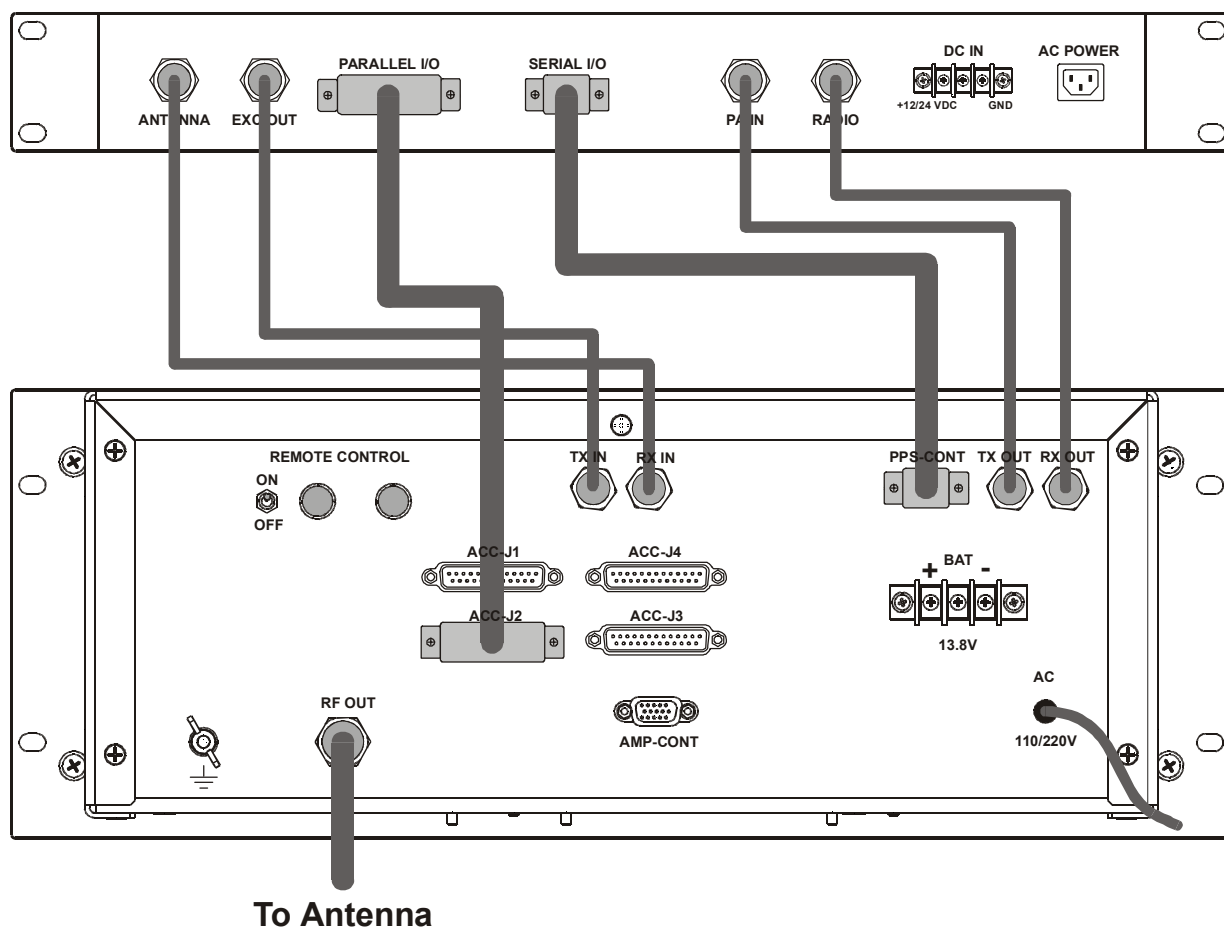

Figure 8. Connections to PPS
To use the PPS, order the RM125/RM125R with option G65. The connections between an RM125/RM125R with option G65 and the PPS are shown in Figure 8.
7. Refer to Figure 8 and connect cables between RM125/RM125R and the PPS as follows: